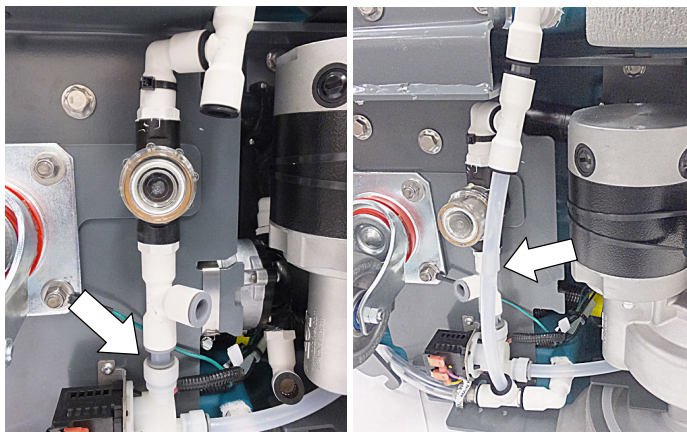

Fig. 24
8. Connect the in-line filter assembly to solenoid valve fitting and reconnect the existing hose as shown (Figure 24).